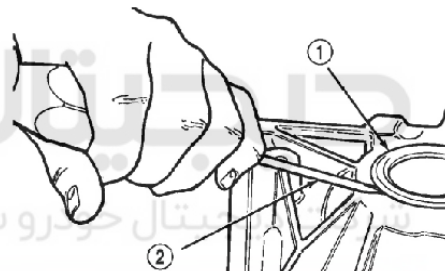

Figure 3-79 Disassembly of axle shaft seal
- (1) Remove the axle shaft. As for correct process, see the 3 groups of differential and transaxle.
- (2) Insert the flat lever in axle shaft seal by the edge (Figure 3-79).